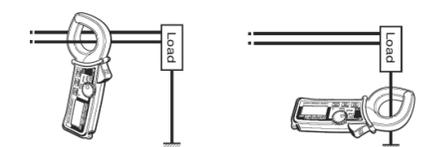

Fig. 1 Load current
- (1) Set the Range Selector Switch to the desired position. Current to measure should be within the selected measuring range.
- (2) Normal measurement (See Fig.1,2):